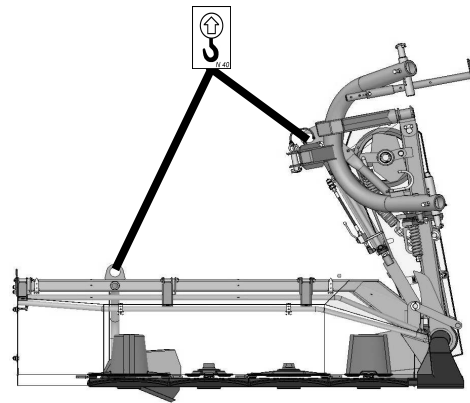

Fig. 4. Transport holders
- ❑ Grab the mower by any lifting devices only in places indicated by hook sign (**Fig. 4**),